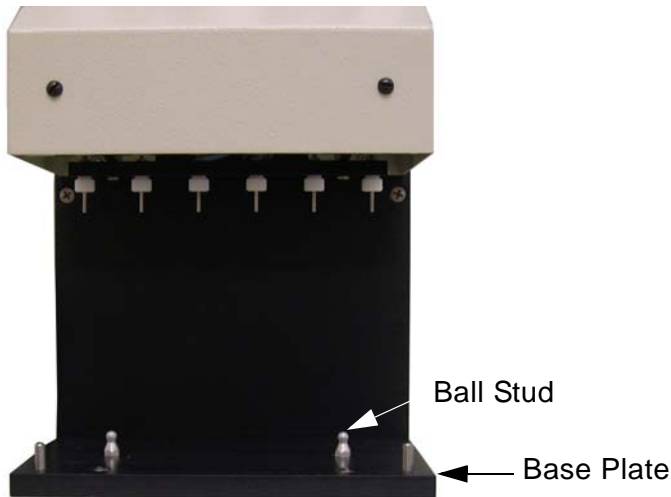

Figure B-8. Ball Stud and Base Plate
3. Install the waste drain onto the elution station's two ball studs, making sure the waste drain snaps into place and sits flush on the base plate (see Figure B-8).